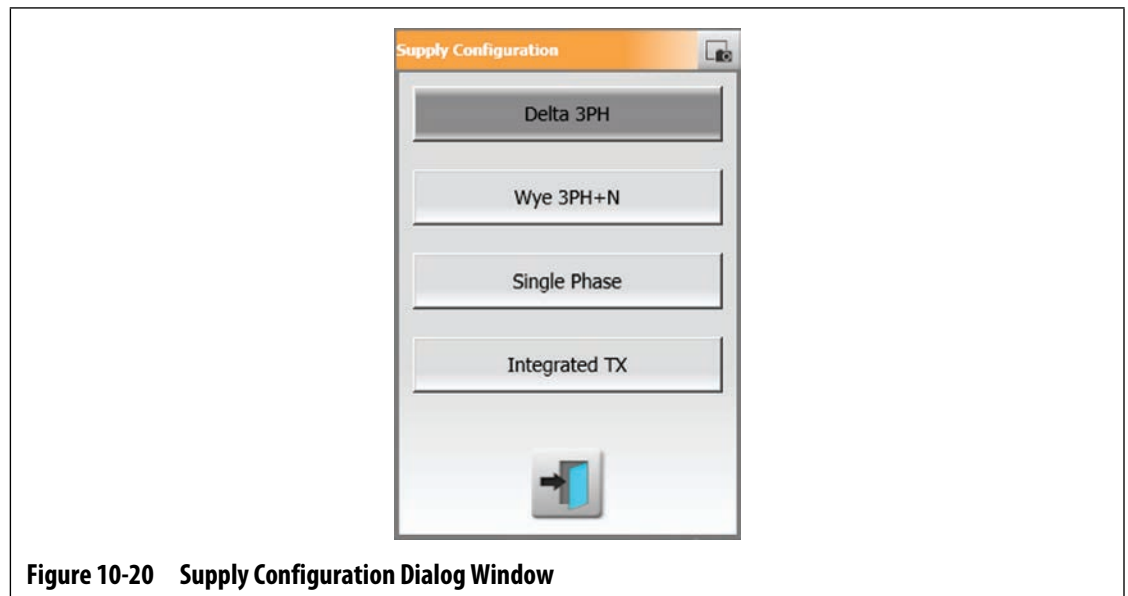

Figure 10-20 Supply Configuration Dialog Window
4. Touch the correct supply configuration on the Supply Configuration dialog window. Refer to Figure 10-20.